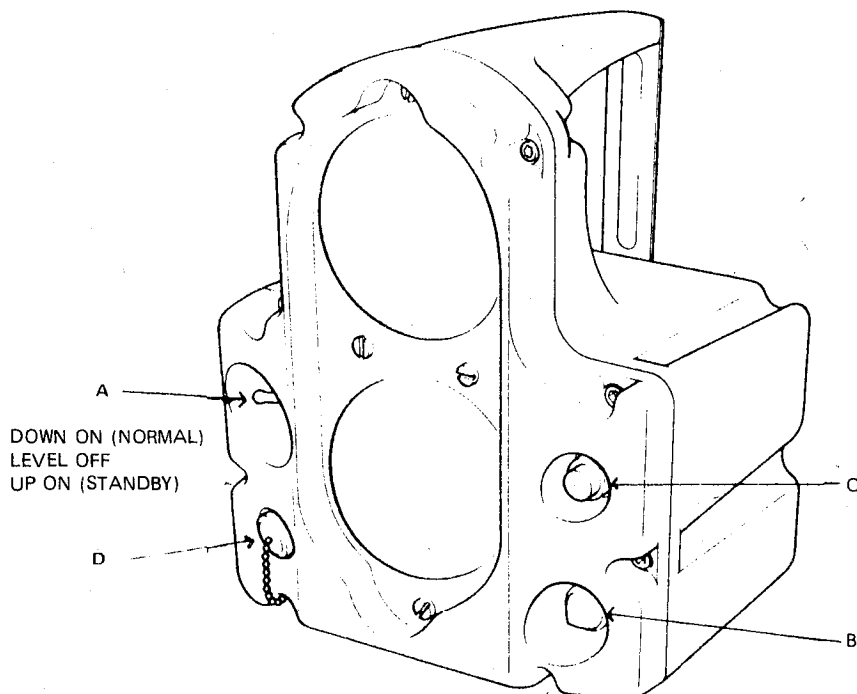
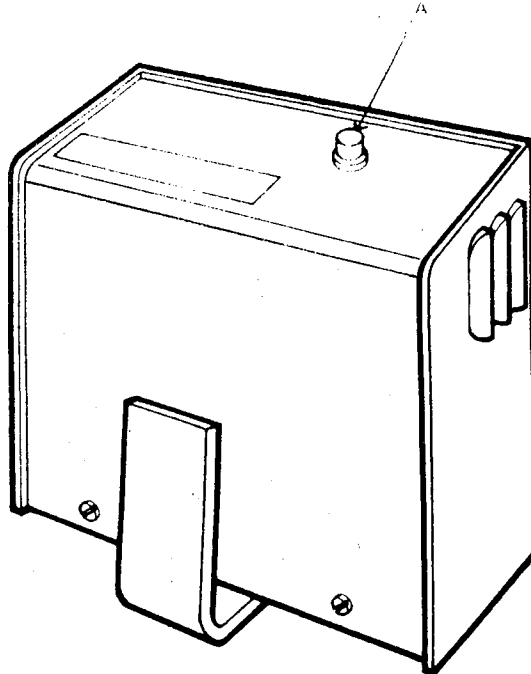

Fig. 1 Bardic Battery Electric Tail Lamp
Fig. 2 Bardic Battery Electric Tail Lamp Charger
The lamp is switched on by a 3 position switch (A) Fig.1. Should the lamp in one lens fail the the standby is brought into use by operating the switch to the other (upper) position.
During the charging the lamp is supported on a bracket integral with the charger unit, electrical connection being by means of a wander lead which connects to a socket (with weatherproof blanking cap) on the lamp front (see Fig. 1, D). Automatic charge control is effected which also provides an indication (by slow flashing of the pilot light, Fig. 2, A) when the battery is fully charged.